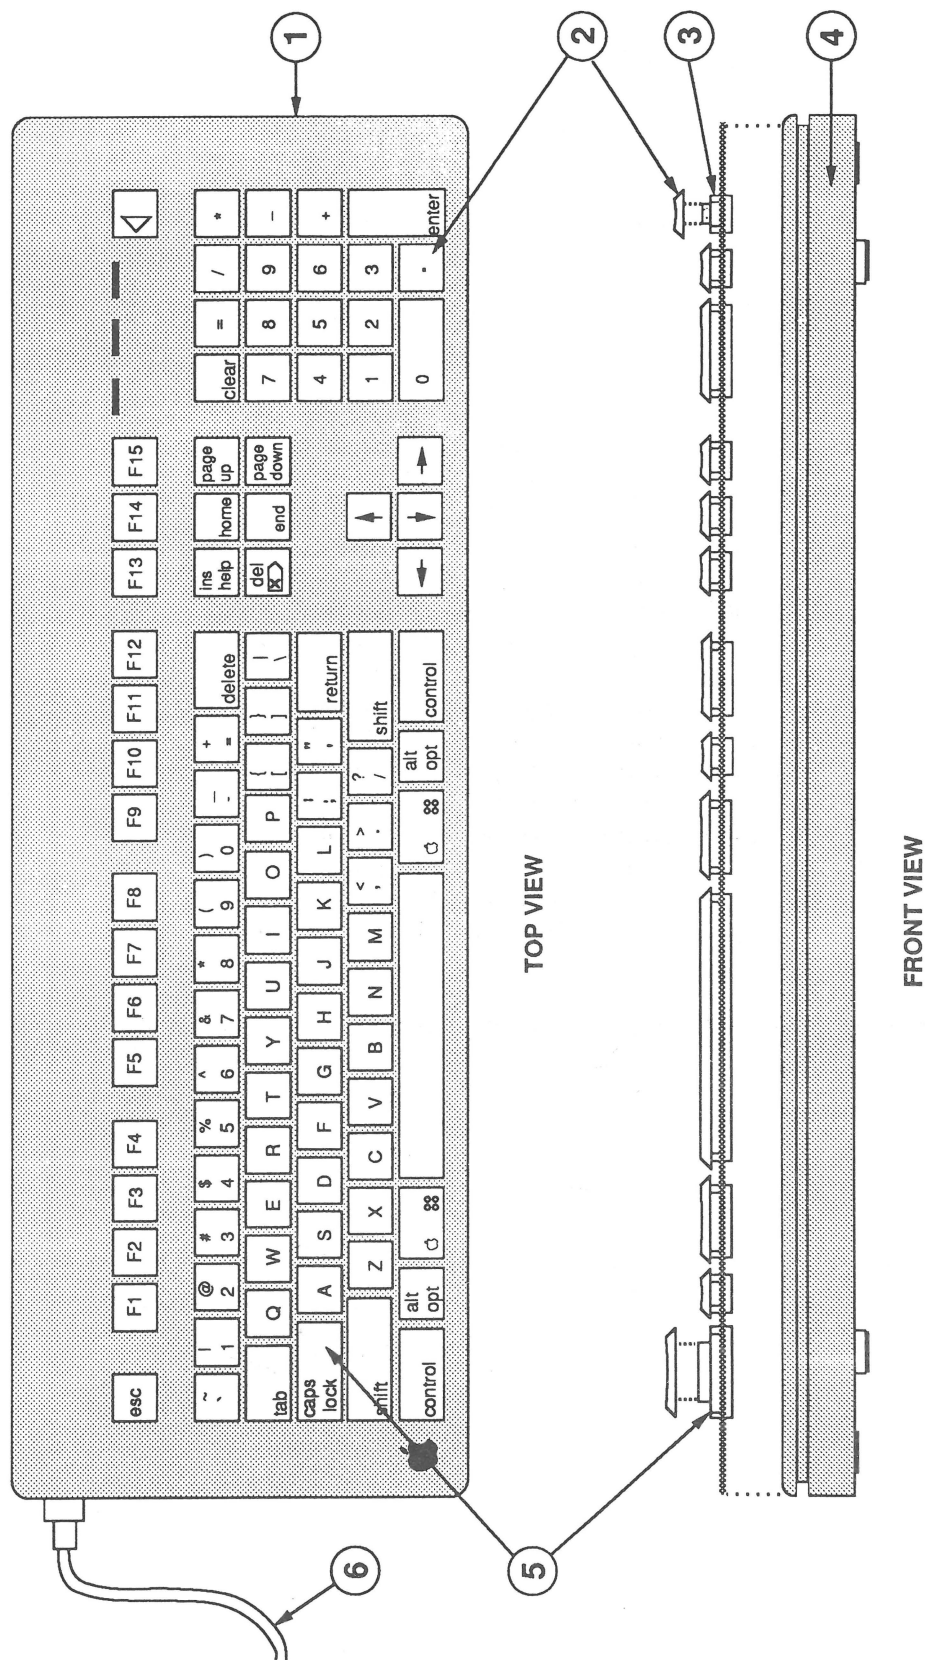

FIGURE 3
□ EXTENDED KEYBOARD (Figure 3)